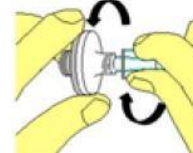

Figure 2a.
5. Ensure the connection of the transducer protector to the bloodline monitor line is tight before connecting to the machine pressure port. Twist the female luer clockwise while twisting the transducer protector in the opposite direction. See figure 2a.